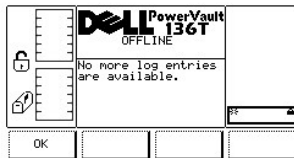

Figure 28. Status > Logs > Drive Log Dialog
- 1 If the button beneath the **OK** softkey is pressed, the drive parameter is accepted and the Drive Log Dialog is displayed. Refer to Figure 28.